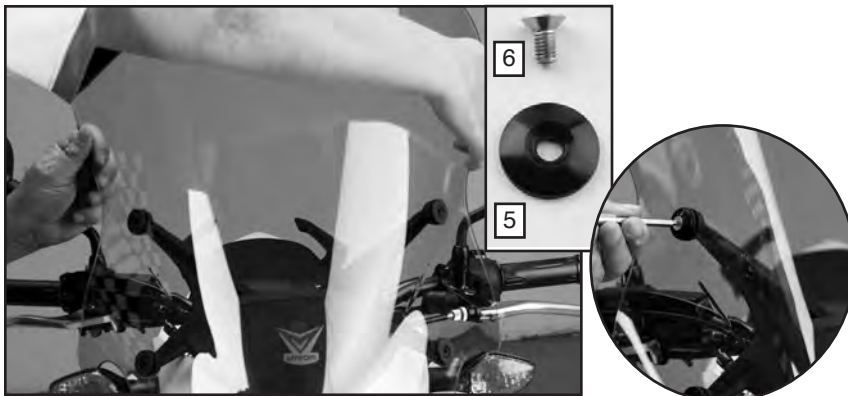

Figure 7
9. Use one M6 Flat Screw (6) and Cap (5) to attach windscreen to mounts. Repeat procedure at all 4 holes. Tighten screws firmly. **Figure 7.** (4mm Hex Key)